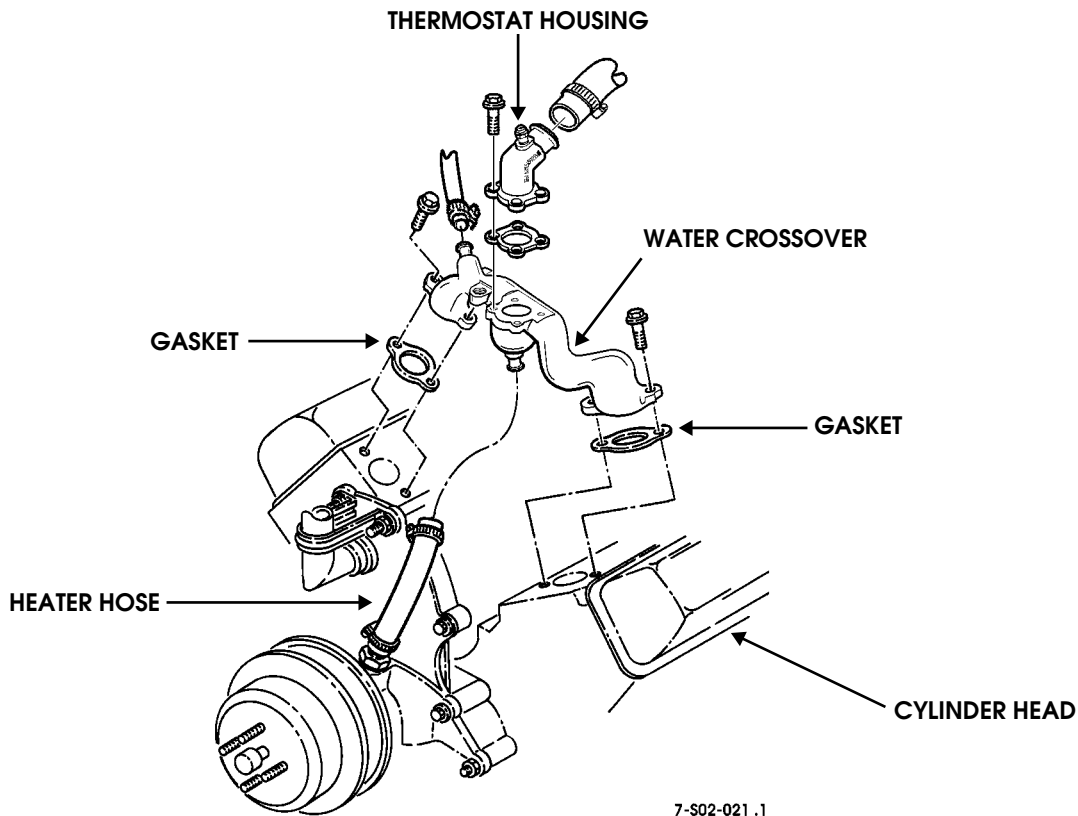

Figure 4-30: Water Crossover Removal/Installation (NA Diesel)
2. Disconnect hoses from water crossover (Figure 4-30).